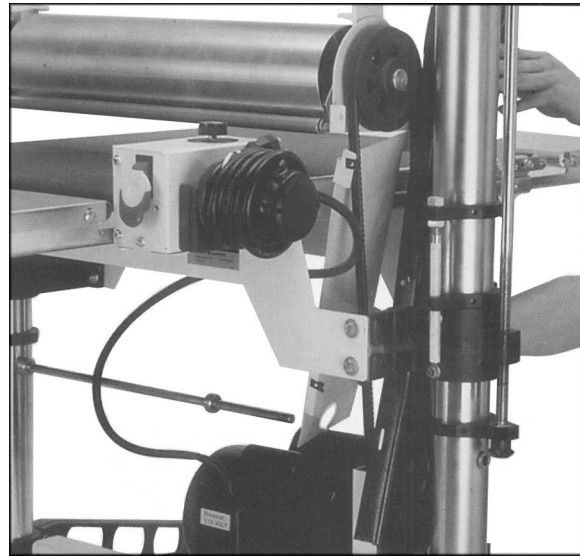

Figure 37
2. Remove the outer half of belt guard by removing the six #10-32 screws with a 5/16" wrench. Slide the belt guard away from the v-belt. See Figure 37.